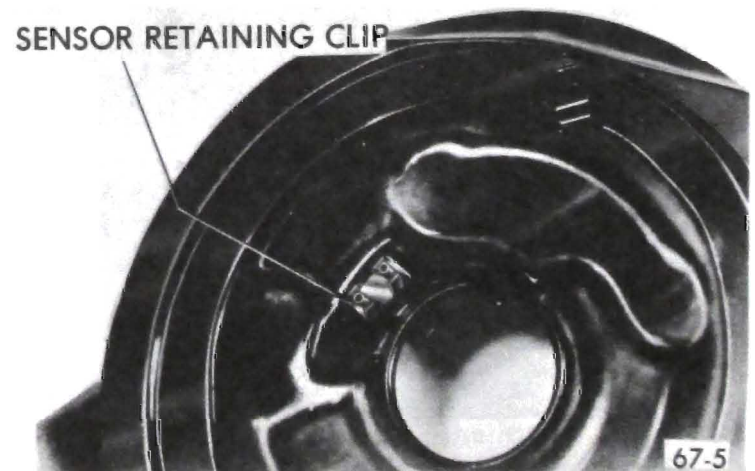

Figure 67-9 - Replacing Sensor Assembly
1. Remove two sensor retaining clips by prying. See Figure 67-9.